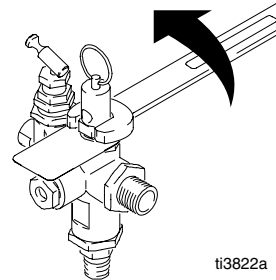

Fig. 16
5. Unscrew unloader valve and remove from fitting. Fig. 16.